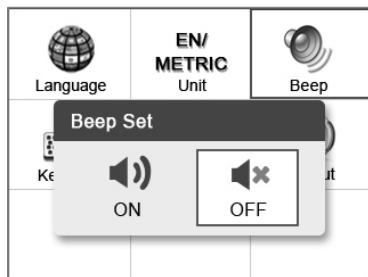

Figure 3.5
- 2) On **Beep Set** menu, use the **LEFT/RIGHT** scroll button to select **ON** or **OFF** to turn on/off the beep. (Figure 3.5)